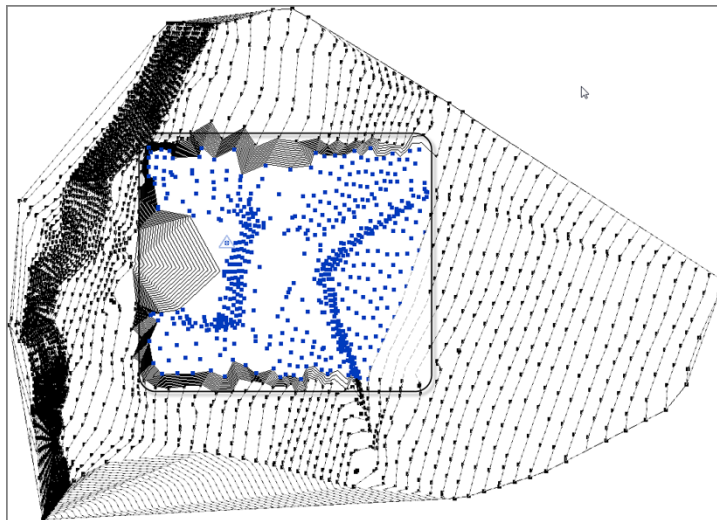

FIGURE 18.37: Selecting a range of points
9. Draw a selection window around the center of the site (doing so selects a bunch of points), as shown in Figure 18.37.